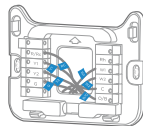

Fig. 7 Connect 24V Wires
- Label the 24V wires according to their color. You can refer to the picture taken previously. (See Fig. 7)